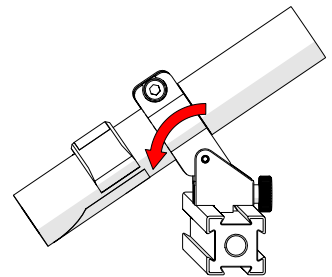

Fig. 145 - Aim guide
3. Adjust the optical guide's friction pivot to direct the laser beam as required (*Fig. 145*).